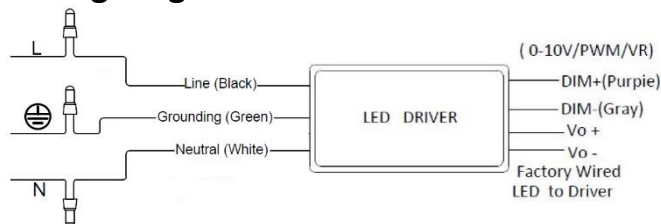

Fig. 4
4. Connect wires using wire-nuts (provided by others); connect white to “Neutral”, black to “Line”, and green to “Ground” as shown in Fig. 4.